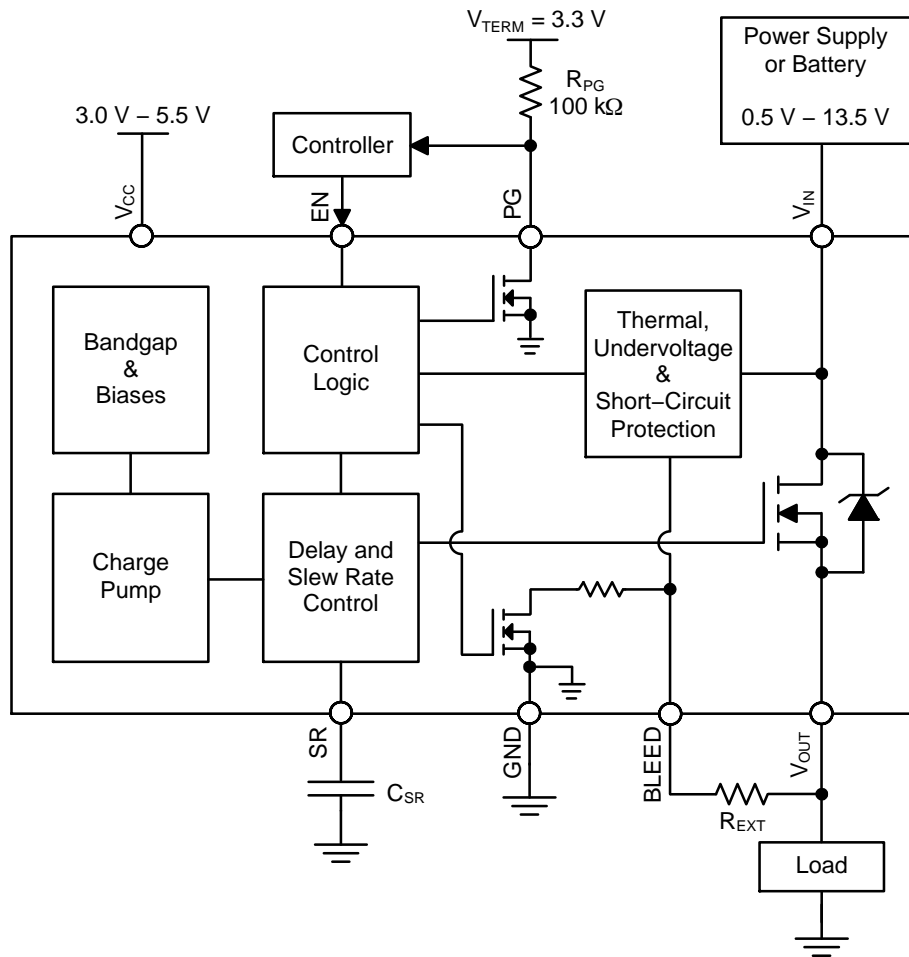
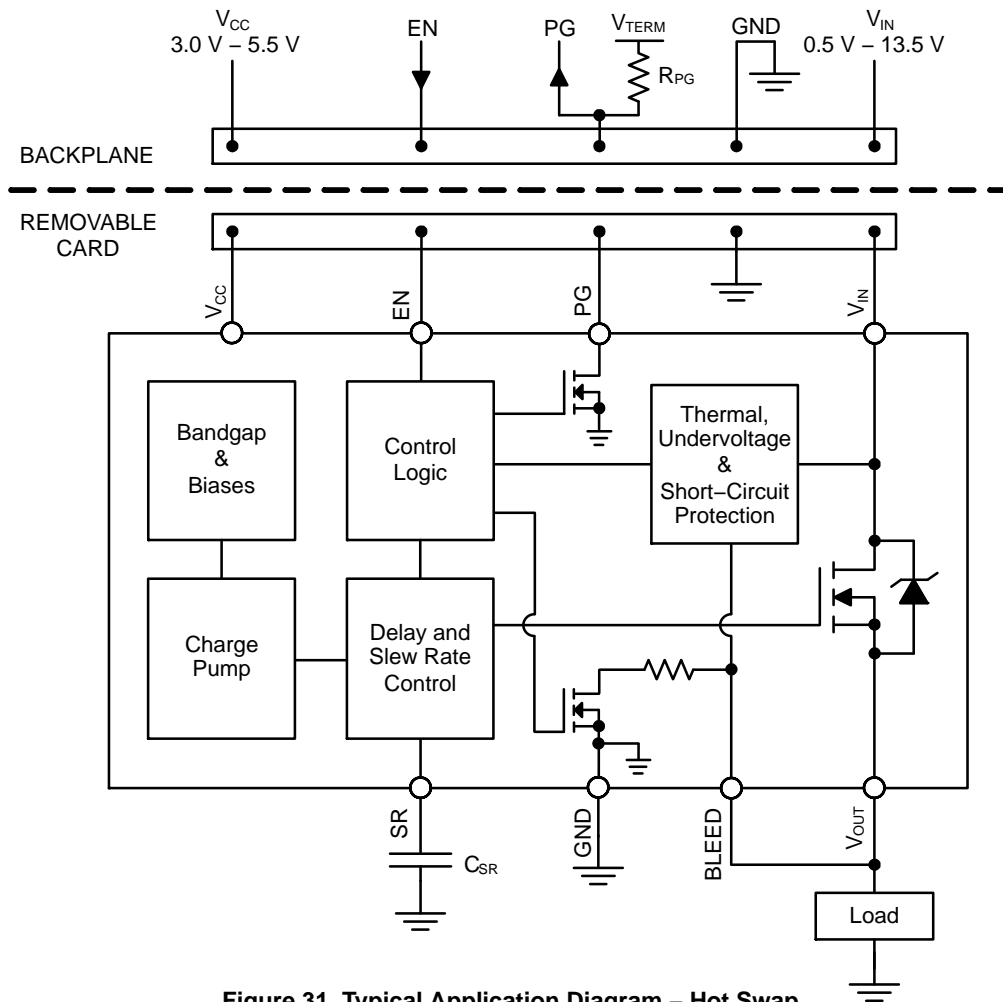

Figure 30. Typical Application Diagram – Load Switch
Figure 31. Typical Application Diagram – Hot Swap
It is required that the BLEED pin be connected to V_{OUT} either directly (as shown in Figure 31) or through an external resistor, R_{EXT} (as shown in Figure 30). R_{EXT} should not exceed 1 k Ω and can be used to increase the total bleed resistance.
The NCP45540 devices have a power good output (PG) that can be used to indicate when the gate of the MOSFET is fully charged. The PG pin is an active–high, open–drain output that requires an external pull up resistor, R_{PG} , greater than or equal to 1 k Ω to an external voltage source, V_{TERM} , compatible with input levels of other devices connected to this pin (as shown in Figures 30 and 31).
The slew rate can be decreased with an external capacitor added between the SR pin and ground (as shown in Figures 30 and 31). With an external capacitor present, the slew rate can be determined by the following equation:
Once active, the circuitry monitors the difference in the voltage on the V_{IN} pin and the voltage on the BLEED pin. In order for the V_{OUT} voltage to be monitored through the BLEED pin, it is required that the BLEED pin be connected to V_{OUT} either directly (as shown in Figure 31) or through a resistor, R_{EXT} (as shown in Figure 30), which should not exceed 1 k Ω . With the BLEED pin connected to V_{OUT} , the short–circuit protection is able to monitor the voltage drop across the MOSFET.